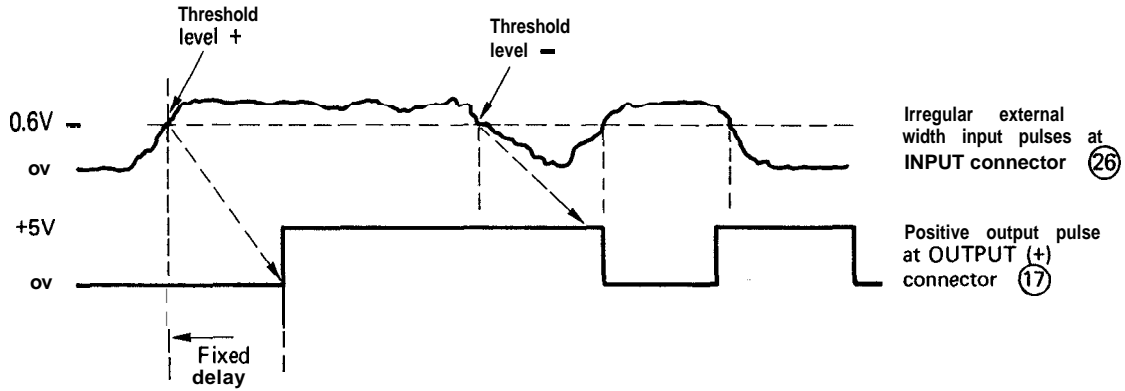

Figure 3-21. Output pulses in external width mode
- a. Connect the external signal to the INPUT connector (26) on the rear panel of the 80138.
- b. Set the Mode Selector switch (25) to EXT WIDTH.
3-53 The output pulses should appear at the OUTPUT (+) connector (17) as shown in Figure 3-21.